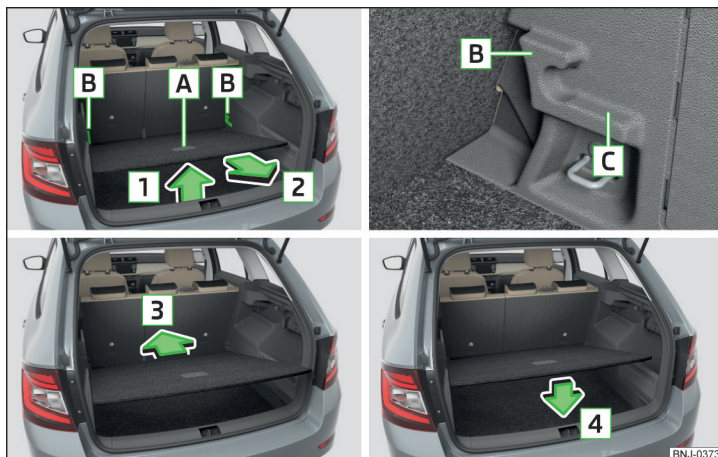

Fig. 118 Set the variable loading floor to the upper position
- Raise the variable loading floor by the handle **A** in direction of arrow **1** and move partially in the direction of arrow **2** » Fig. 118.